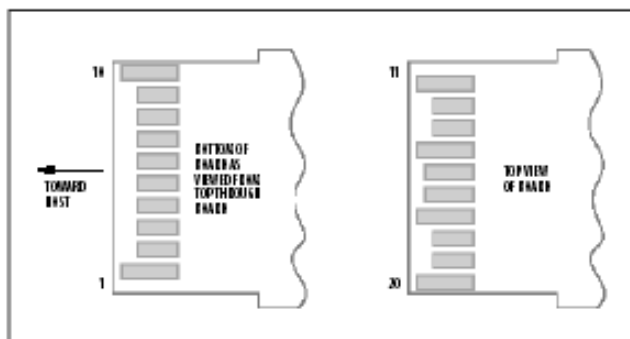

Figure 2. Module edge connector contacts
The 2GACSM-00G-EF interfaces with the host circuit board through the twenty contact SFP+ electrical connector. See Table 2 for contact descriptions. The device edge connector is shown in Figure 2. The 2GACSM-00G-EF high speed transmit and receive interfaces require SFF-8431 compliant signal lines on the host board. The TX_DISABLE and RX_LOS signals require LVTTTL signals on the host board (per SFF-8431) if used. If an application does not take advantage of these functions, care must be taken to ground TX_DISABLE to enable normal operation.
2. This is an open collector/drain output that on the host board requires a 4.7 kΩ to 10 kΩ pullup resistor to VccHost. See Figure 2.